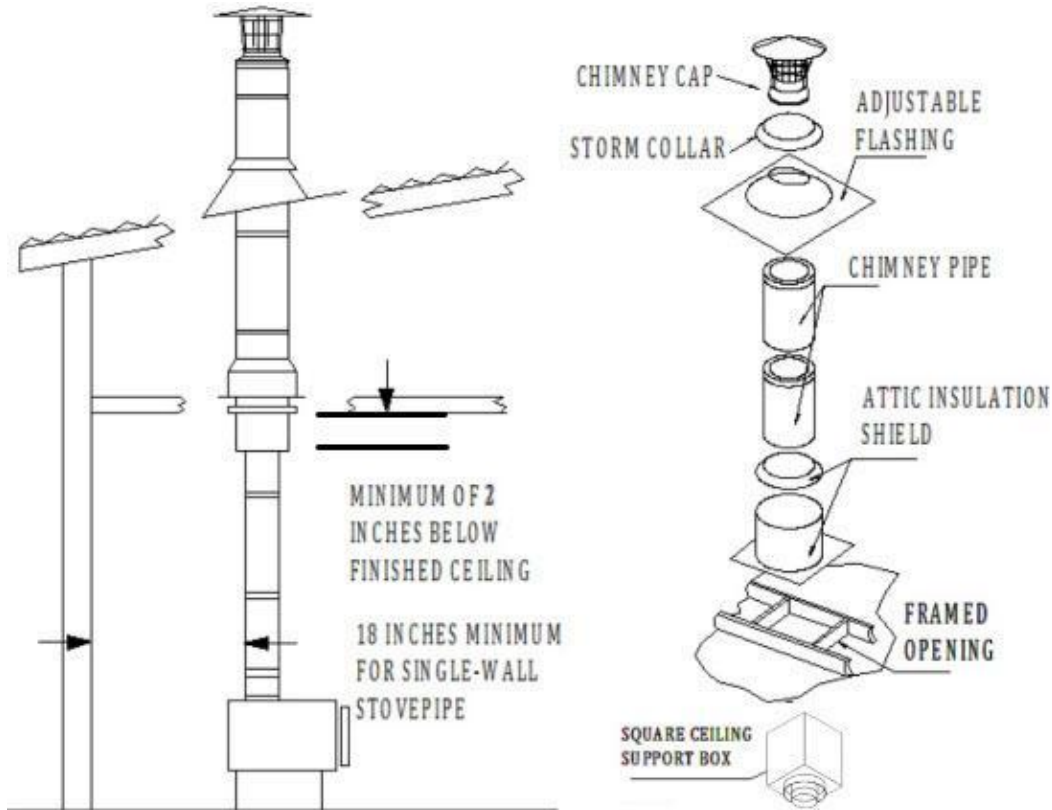

Fig.3
2. **Frame Support Opening:** Drop a plumb bob to the center of the appliance's flue outlet and mark the center point on the ceiling. Refer to **Table 1** for specific framing and clearance dimensions. Mark appropriate cutting lines on the ceiling around the center point. Cut a square hole in the ceiling for the Ceiling Support Box to pass through. Frame a level, square opening centered over the hole which you have cut between the joists (Fig 3 & 4).